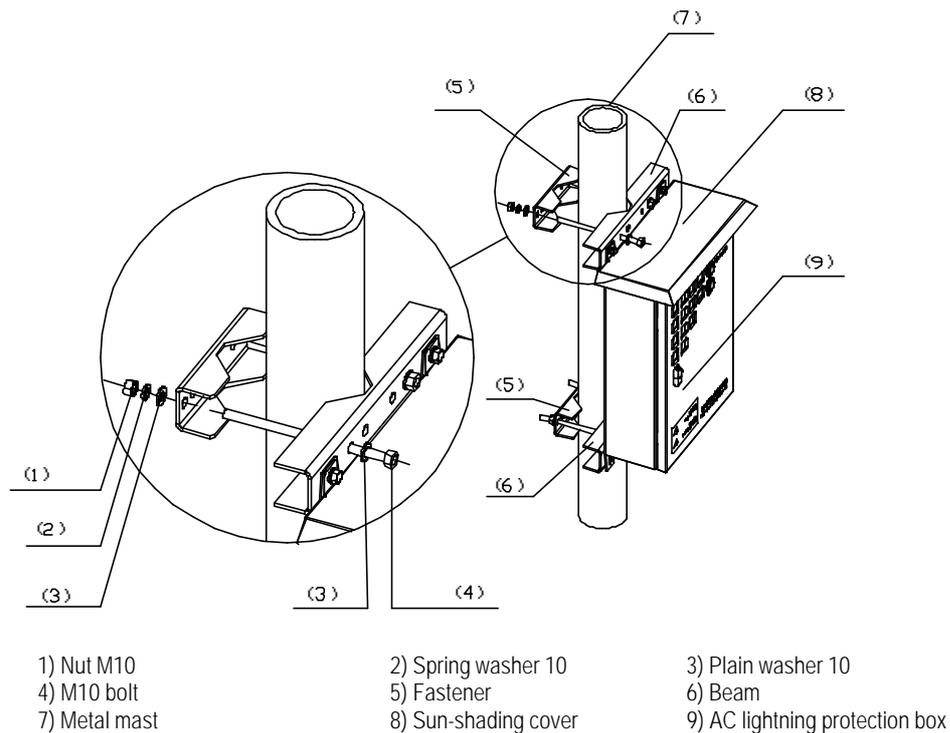

Figure 2-38 Fixing AC lightning protection box (on metal masts)
- 2) Put the fixed beam and the box against the metal mast, install the fasteners and place the mast on the middle of the beam and the fastener. Then pull the M10 bolt through the beam and the fastener, put plain washers, spring washers and nuts onto the bolt and tighten the nut to a torque of 26.5 N·m with a spanner. The process is shown in Figure 2-38.